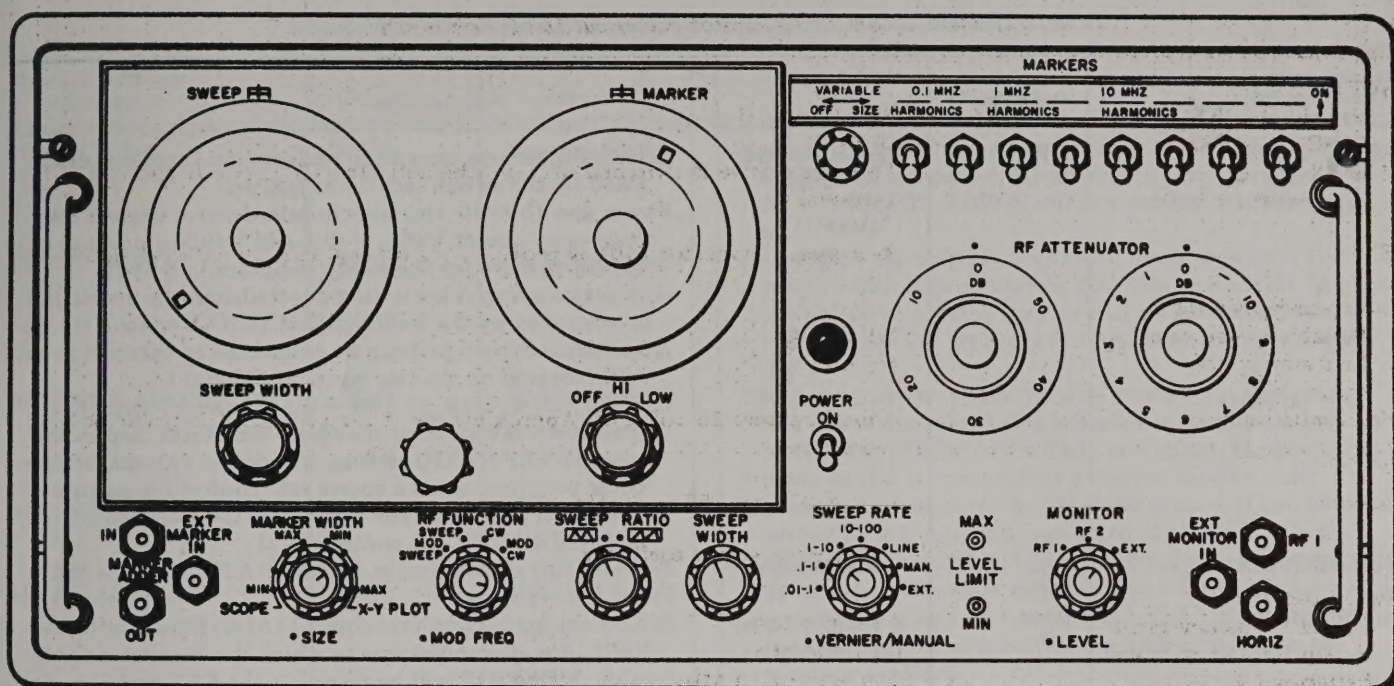

Figure 2-1. Sweep generator—front panel view.
a. An illustration of the sweep generator front panel is provided in figure 2-1.